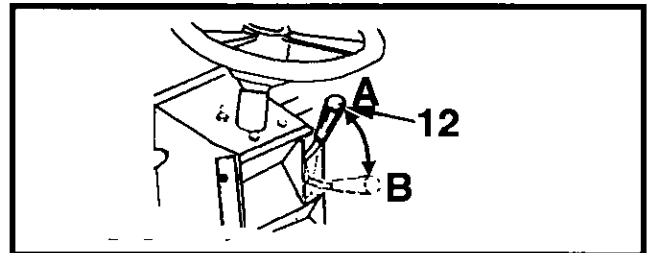

Figure 4-13 Engine Speed Control - Low Idle
3. Position the engine speed control lever 12 to Low IDLE position 'A', (Figure 4-13).